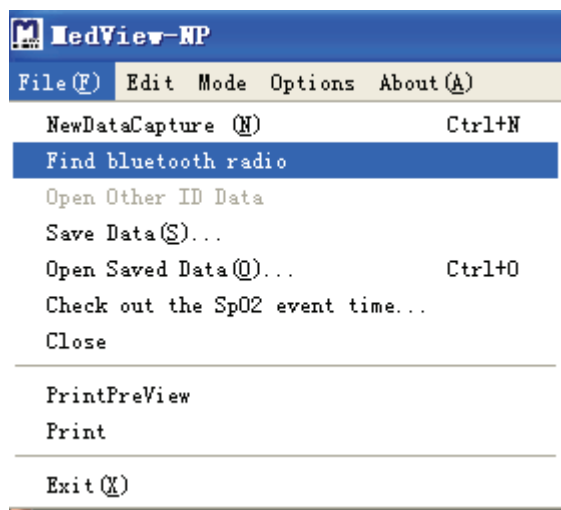

Figure 3-10
**3.2.2** Click “Find Bluetooth® radio” item in the interface as shown in Figure 3-10. The following figure will be available. There are three methods for searching Bluetooth® devices,